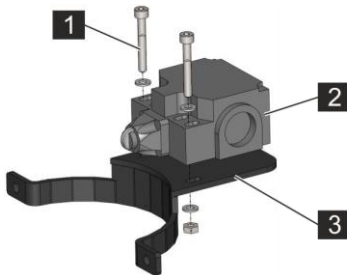

Fig. 94: Mounting the switch
1. ➤ Attach the switch (Fig. 94/2) with the screws (Fig. 94/1), washers (4 pcs) and nuts to the clamp (Fig. 94/3). (Do not tighten the screws yet.)